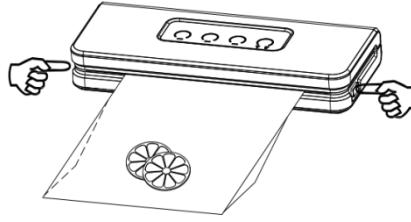

Figure 5
8. After completing the process of Vacuum Seal, press both of the Lid Release Buttons to open then upper lid and take out the sealed bag (**as shown in Figure 5**).